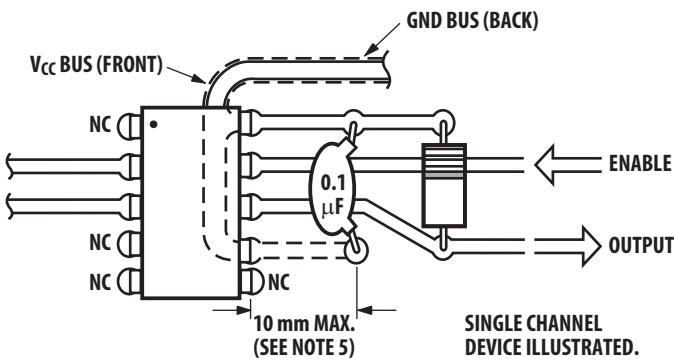

Figure 15. Recommended printed circuit board layout.
2. By passing of power supply line is required, with a 0.1 μF ceramic disc capacitor adjacent to each optocoupler as illustrated in Figure 15. Total lead length between both ends of the capacitor and the isolator pins should not exceed 20mm.